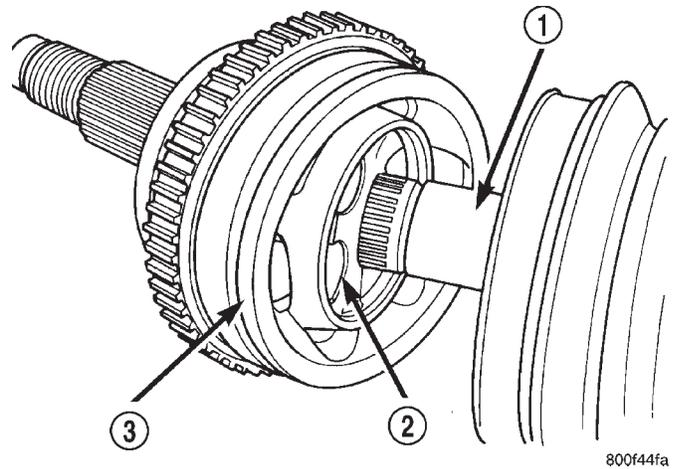
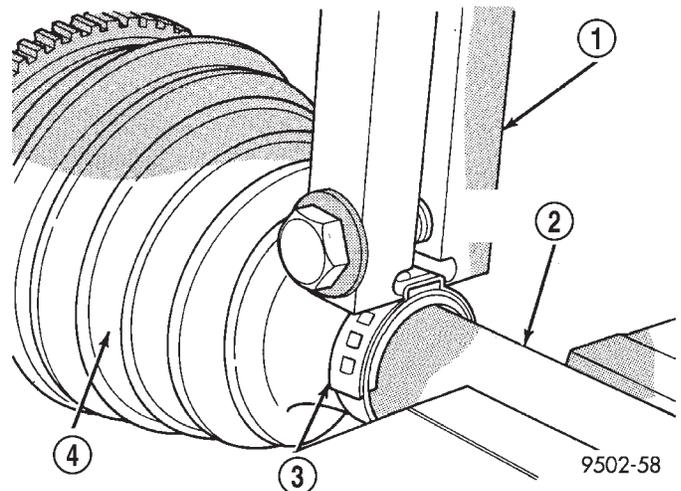
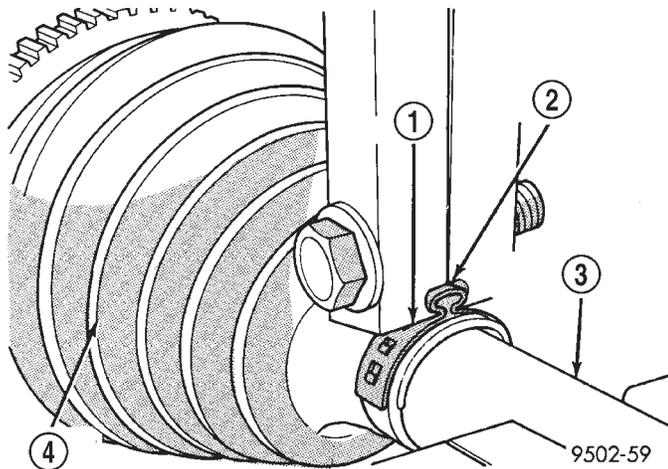

Fig. 41 Outer C/V Joint Correctly Installed on Interconnecting Shaft
Fig. 42 Crimping Tool Installed on Sealing Boot Clamp
Fig. 43 Sealing Boot Retaining Clamp Installed
(4) Outer C/V joint assembly must be installed on interconnecting shaft until cross of outer C/V joint assembly is seated against circlip on interconnecting shaft (Fig. 41).
(5) Distribute 1/2 the amount of grease provided in seal boot service package (DO NOT USE ANY OTHER TYPE OF GREASE) into outer C/V joint assembly housing. Put the remaining amount into the sealing boot.
(6) Install outer C/V joint sealing boot to interconnecting shaft clamp evenly on sealing boot.
(7) Clamp sealing boot onto interconnecting shaft using crimper, Special Tool C-4975-A and the following procedure. Place crimping tool C-4975-A over bridge of clamp (Fig. 42). Tighten nut on crimping tool C-4975-A until jaws on tool are closed completely together, face to face (Fig. 43).